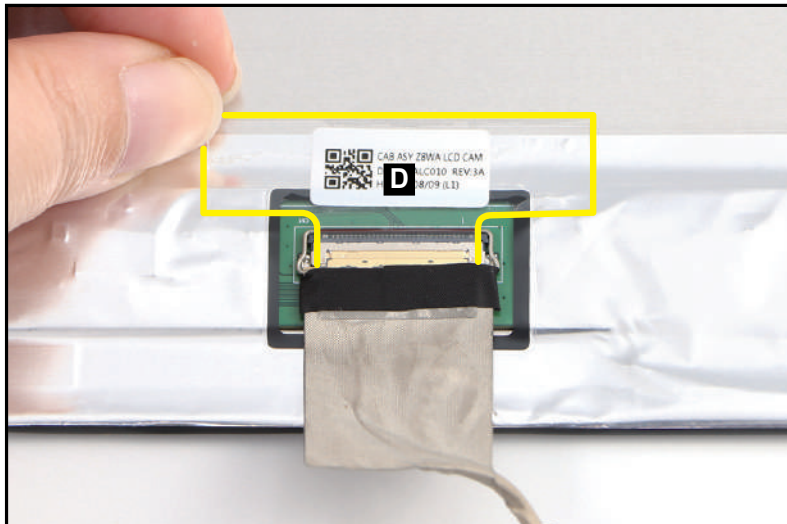

Figure 3-77. LCD Panel Removal
3. Carefully turn the LCD panel over so that the display panel is facing down on a flat surface. Then detach the mylar (D) securing the LCD cable to the LCD panel (Figure 3-77).